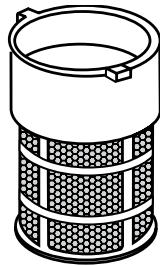

Figure 23. Fuel Strainer
3. Next, remove, inspect and clean the fuel strainer (Figure 23) with solvent.